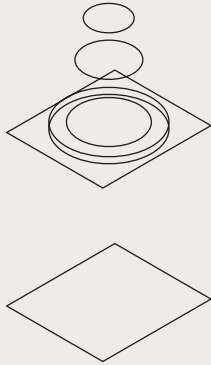
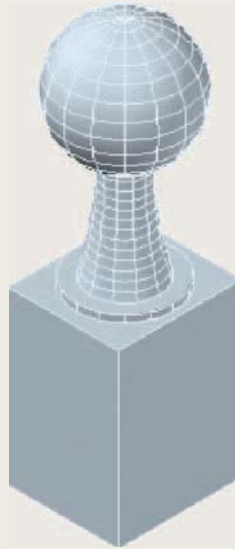

Fig. 12.57 The cross-sections for Exercise 10
Fig. 12.58 Exercise 10
10. Construct the cross-sections as shown in Fig. 12.57 working to suitable dimensions. From the cross-sections construct the lofts shown in Fig. 12.58. The lofts are topped with a sphere constructed using the **Sphere** tool.